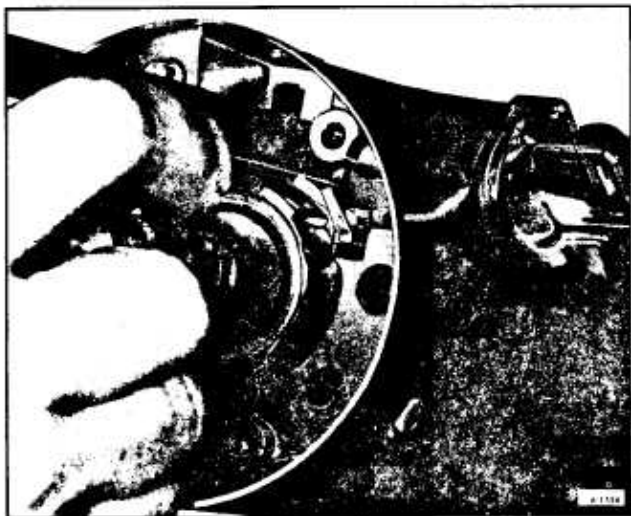

Figure 72—Removing Lock
11. Insert a thin tool (small screw driver or knife blade) into the slot next to the switch mounting screw boss (right-hand slot) and depress retainer at bottom of slot, which releases lock. Remove lock. (figure 72).